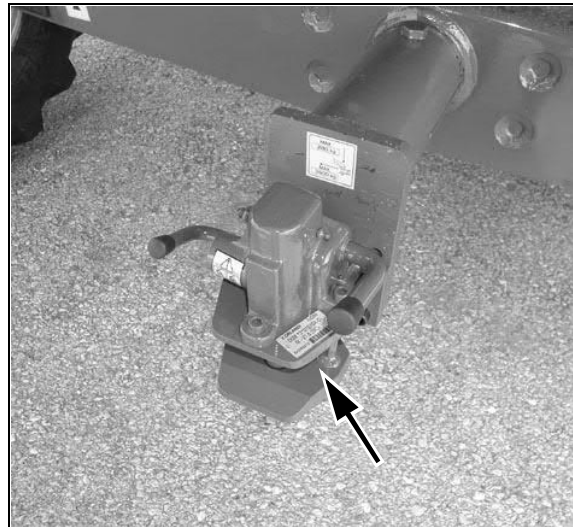

Fig. 11
**Trailer hitch identification (if fitted) - Fig. 11**